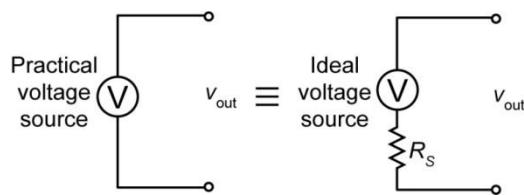

Fig. 5.6: Practical voltage source.
However, if you look at the output voltage of a voltage source, you will find that it decreases as we increase the current drawn from it. This is because an ideal voltage source is expected to have zero resistance. But in practice, there is always a finite (however small, but non-zero) resistance of a practical voltage source. Hence, we represent a practical voltage source as an ideal voltage source (V) in series with a finite source resistance (R_s) as shown in Fig. 5.6.